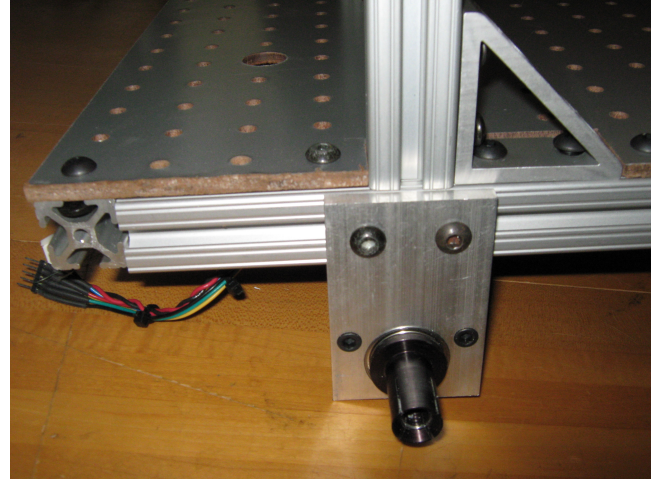

Figure 10: Attach the motors to the sides of the robot, directly underneath the rollbar.
11. Mount a motor to each side, using the two sliders placed there previously. Mount them directly underneath the rollbar, as in Figure 10. Try to ensure that your robot's motor shafts are collinear (why?).